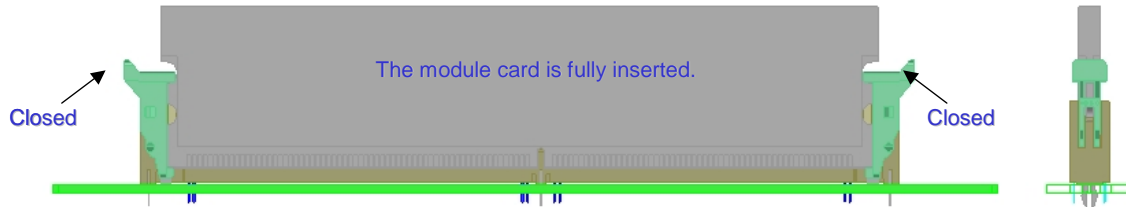

Figure 5 — Example of proper module insertion
10. Proper module insertion will automatically close the latch ejectors and lock the module into the socket. Verify that the latch ejectors are fully closed and have engaged the notches in the module. See Figure 5.